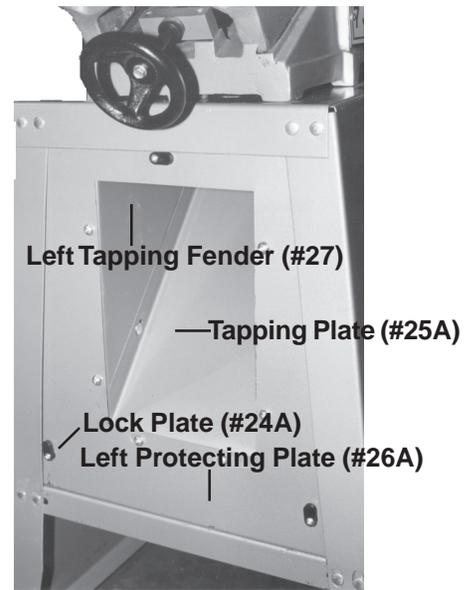

Figure 2
- Step 7) Attach the Right Tapping Fender (#23A) and the Left Tapping Fender (#27A) to the Tapping Plate (#25A). Insert Lock Washer (#21A) with the head on the outside of the Stand. Slide on Washer (#7A) and Nut (#6A). Tighten Tapping Fenders onto Plate-see Figure 2.
- Step 8) Attach a Lock Plate (part #24A) to each corner hole and to the top hole in the Left Protecting Plate (#26A). Make certain that the part of the Lock Plate with the wing is on the outside of the Protecting Plate-see Figure 2.
Step 9) Attach the Tapping Plate (#25A) with Right and Left Tapping Fenders (#23A & #27A) to the Left Protecting Plate (#26A). Insert the Screws (#17A) with head on the outside of the Plate. On the inside, slide on Washer (#7A) and Nut (#6A)-see Figure 2.